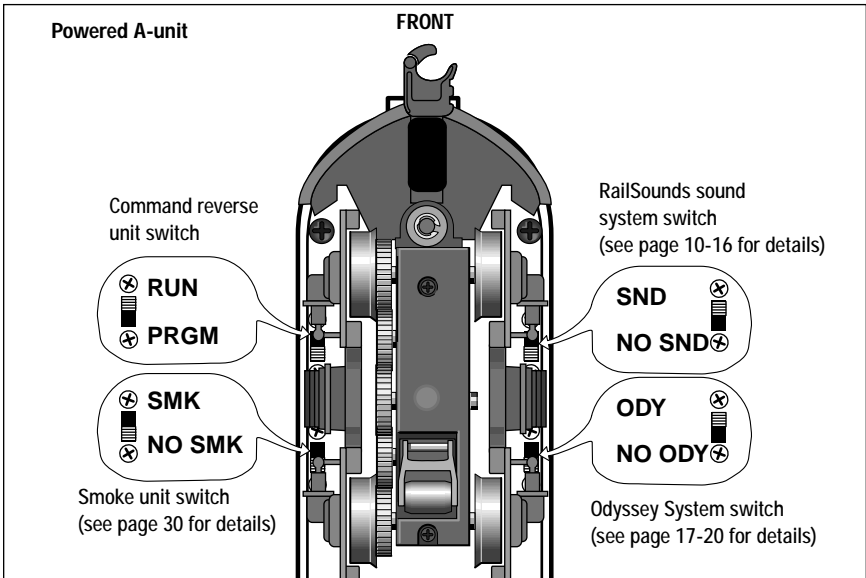

Figure 1. Switch locations
To “lock” your powered A-unit locomotive into a single direction (for example, to operate in forward only), you can deactivate the Command reverse unit’s sequencing function. Refer to Figure 1 for the location of the Command reverse unit switch.
1. Slide the Odyssey switch to the ODY position. Refer to Figure 1 on page 7 for the location of the switch.